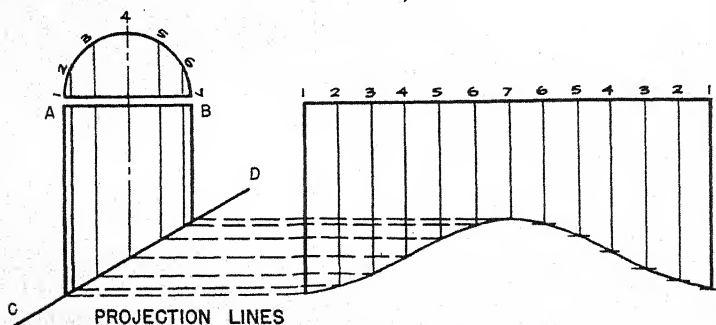

Figure 253.—Transferring from elevation to stretchout to make the pattern.
5. Finally, connect the points at which the arcs have intersected each of the elements, with a curve running from line 1 to the opposite line 1. Smooth out your curved line, add your allowances for seams, and your pattern is complete. If this final line has serious irregularities, you have made a mistake in measurement. Your final stretchout will look exactly like the one made by projection in figure 253.